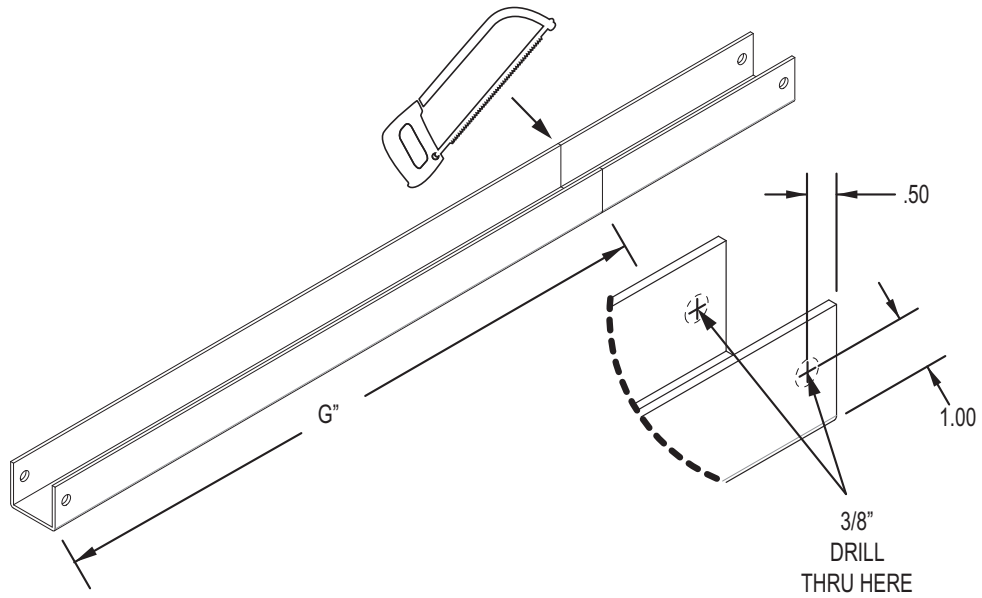

Figure 8.
4. Locate the C-Channel Tilt Risers included with your kit. This tilt riser leg will need to be cut-to-length with a hack saw or other suitable tool to match the “G” length noted in Table 2 for the solar collector size being used and tilt angle that is desired. See Table 2 and Figure 8.
5. Drill a 3/8” hole through the “cut” end of the C-Channel Tilt Riser as depicted in Figure 8.